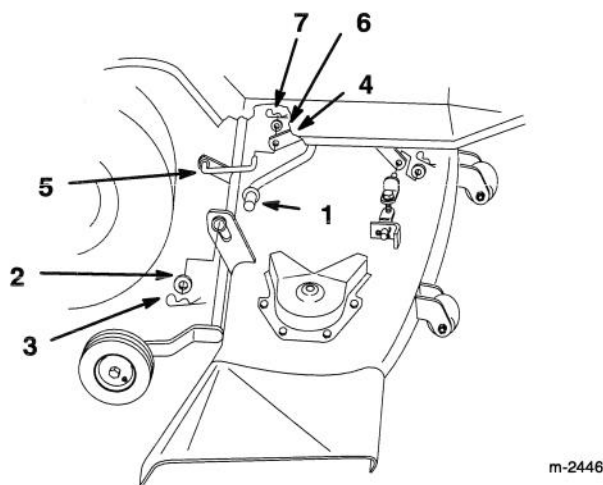

Figure 4
3. Slide the mower under the chassis from the right side (Fig. 4) and align rear mounting bushings with ends of lift arms.
5. Place rear guide bushings, first left side then right, onto lift arms then slide deck left into position. Secure with 3/4" (19 mm) washers and large hairpin cotters (Fig. 4).
6. Attach rear link to attachment lift with 1/2" (13 mm) washer and small hairpin cotter (Fig. 4).